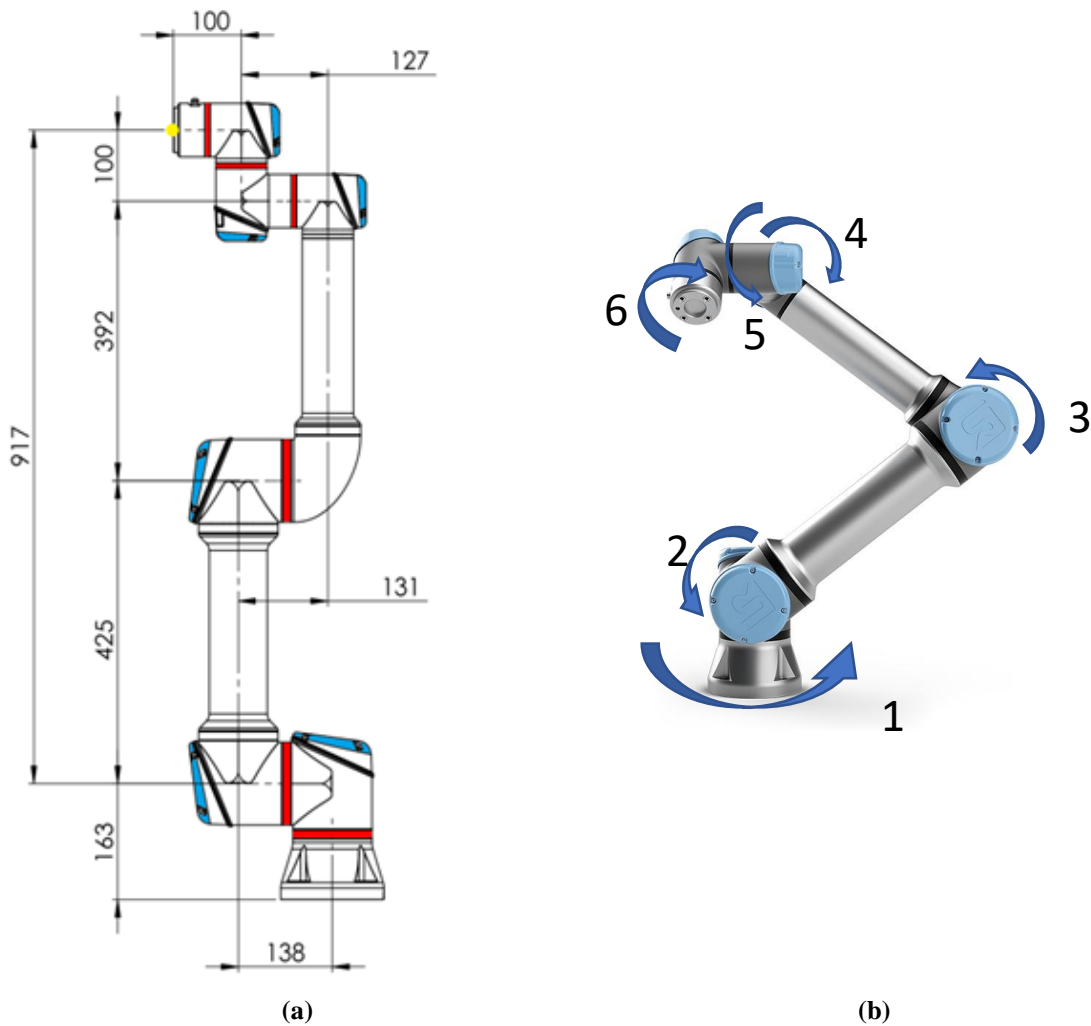

Figure 1 - UR5e joints and kinematic dimensions (mm). Joints are shown in red in (a) and they are marked with arrows in (b).
You might have played with the robot arm UR5e in our lab. It is a six-axis arm with six rotational joints. A structural sketch of the robot can be found in Figure 1 (a) with joints marked in red and dimensions labelled accordingly. Those joints are also shown with arrows in Figure 1 (b). The angles of the six joints, from base to the final wrist, completely define the configuration of the robot, which is called state. Assuming that the robot state is $q[0, -\frac{3\pi}{4}, \frac{\pi}{2}, 0, 0, 0]$:
- Derive the forward kinematics with **modified DH convention** from the base to its end effector (the yellow point on the Figure 1(a)) in this configuration.